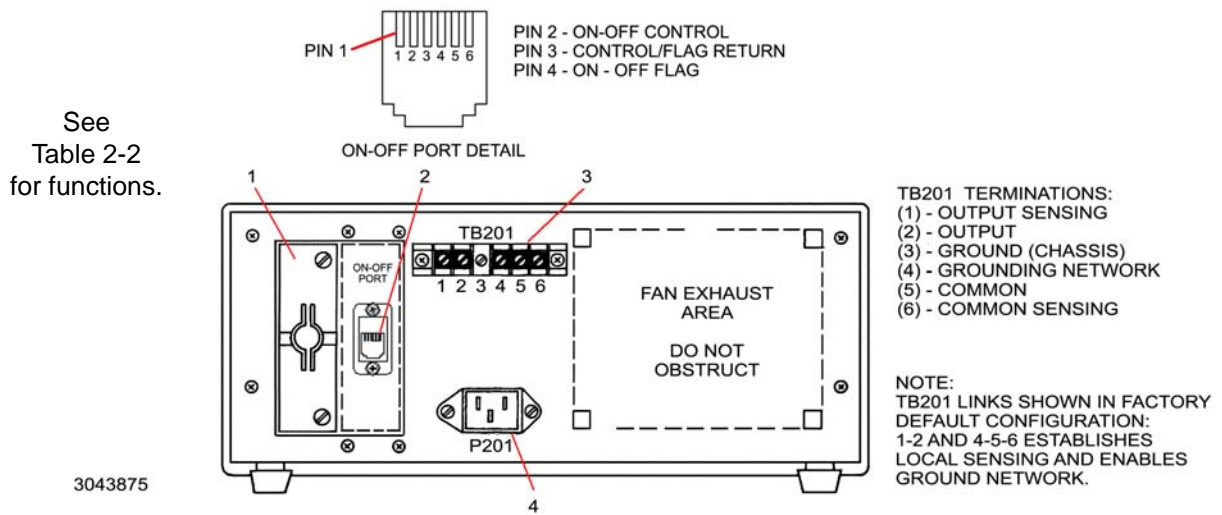

FIGURE 2-2. BOP TERMINATIONS AND CONTROLS, REAR PANEL
- b) Rear Panel: Refer to Figure 2-2 and Table 2-2 for an explanation of terminations.
NOTE: The rear sensing links must be attached to the rear barrier strip (TB201) of the BOP as shown in Figure 2-2 and the Rear Programming Connector (PC-15) must be attached and secured.
- a) Set MODE switch (6), to VOLTAGE.
- b) Set VOLTAGE CONTROL switch (2), to ON, and rotate VOLTAGE control (3) to its maximum counterclockwise position.
- c) Set a-c circuit breaker/POWER switch (1) to ON.
3. At the rear panel, apply a positive voltage between pins 2 and 3 of the OUTPUT ON-OFF port (3, Figure 2-2) to turn the output ON (refer to Table 1-7 for detailed signal requirements).